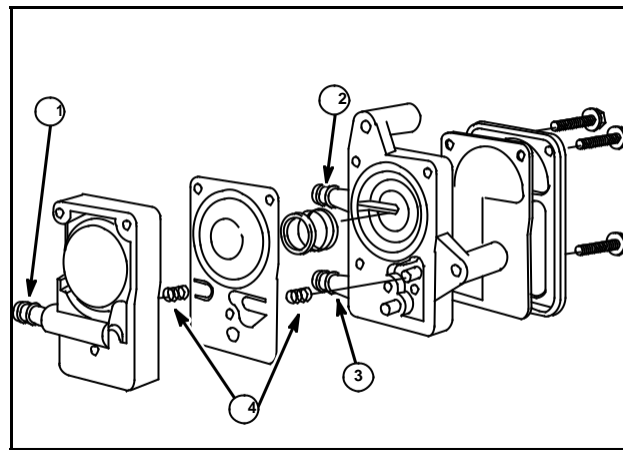

Fig. 158
2. Disconnect vacuum (2), fuel inlet (3) and fuel outlet (1) hoses from pump, Fig. 158.
3. Remove three screws holding pump together, Fig. 158.
2. Place pump cup and spring in center of pumping chamber, Fig. 158.
7. Place springs (4) in spring recesses and install pump diaphragm on locator pins (Fig. 158).
11. Torque screws to 10 to 15 in. lbs. (1 to 2 Nm). See Fig. 158 for exploded view.